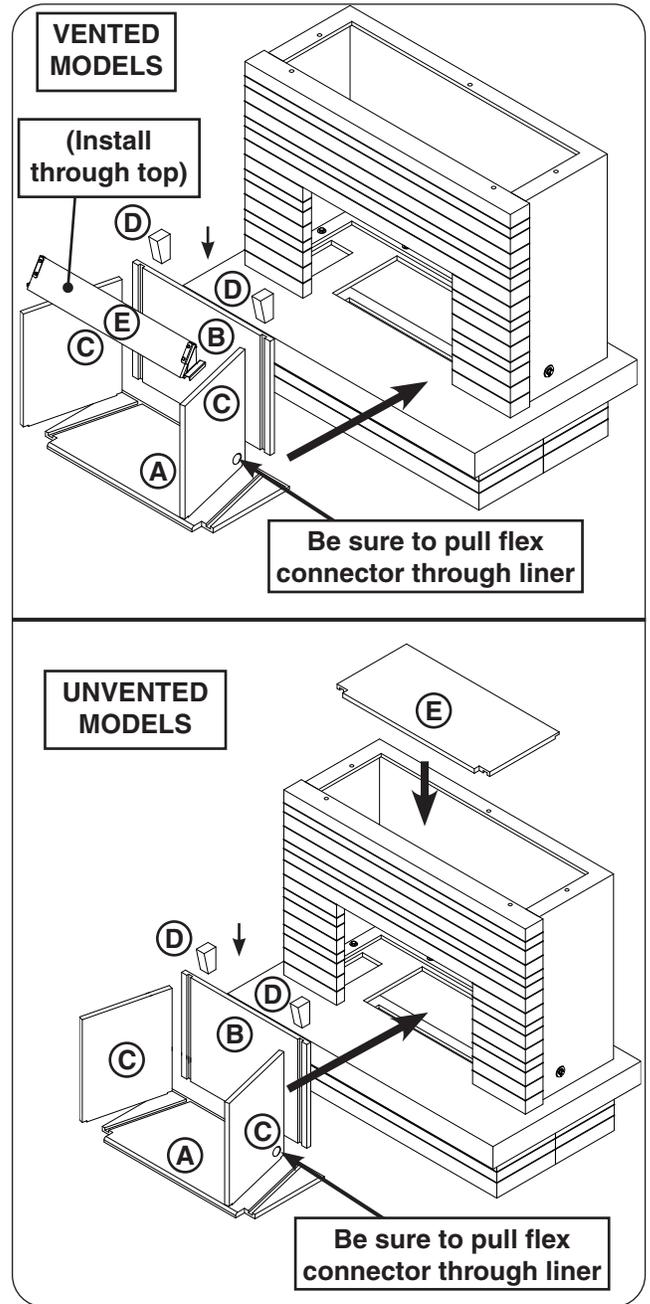

Fig. 22-1 Install firebox liners
1. Install the firebox liners into the interior of the firebox in the order shown in Fig. 22-1, depending on your model.